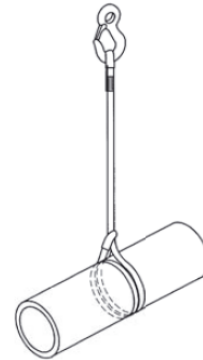

Figure 1.
28. In case of a choked lift the angle must not exceed 120° . Never try and pull the choking point with force. The correct way to lift with a double choked round sling is shown in figure 1.